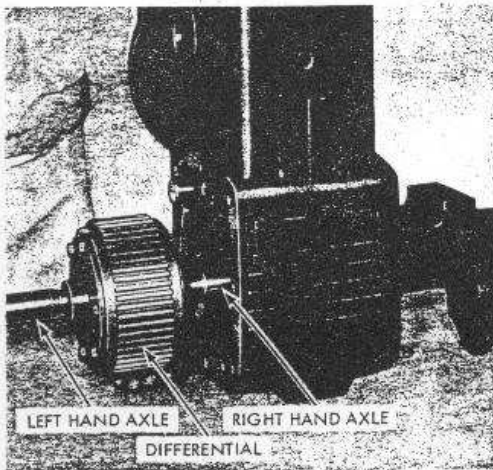

Figure 13
4. Carefully slide differential assembly from transaxle housing to prevent damage to oil seals (Fig. 13).